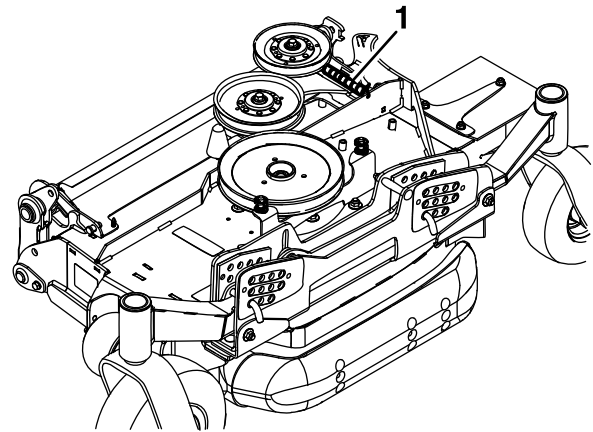

Figure 86
23. To ease installing the wing deck sections, carefully remove the exposed end of the spring that applies pressure to the rear of the wing deck cover (Figure 86).